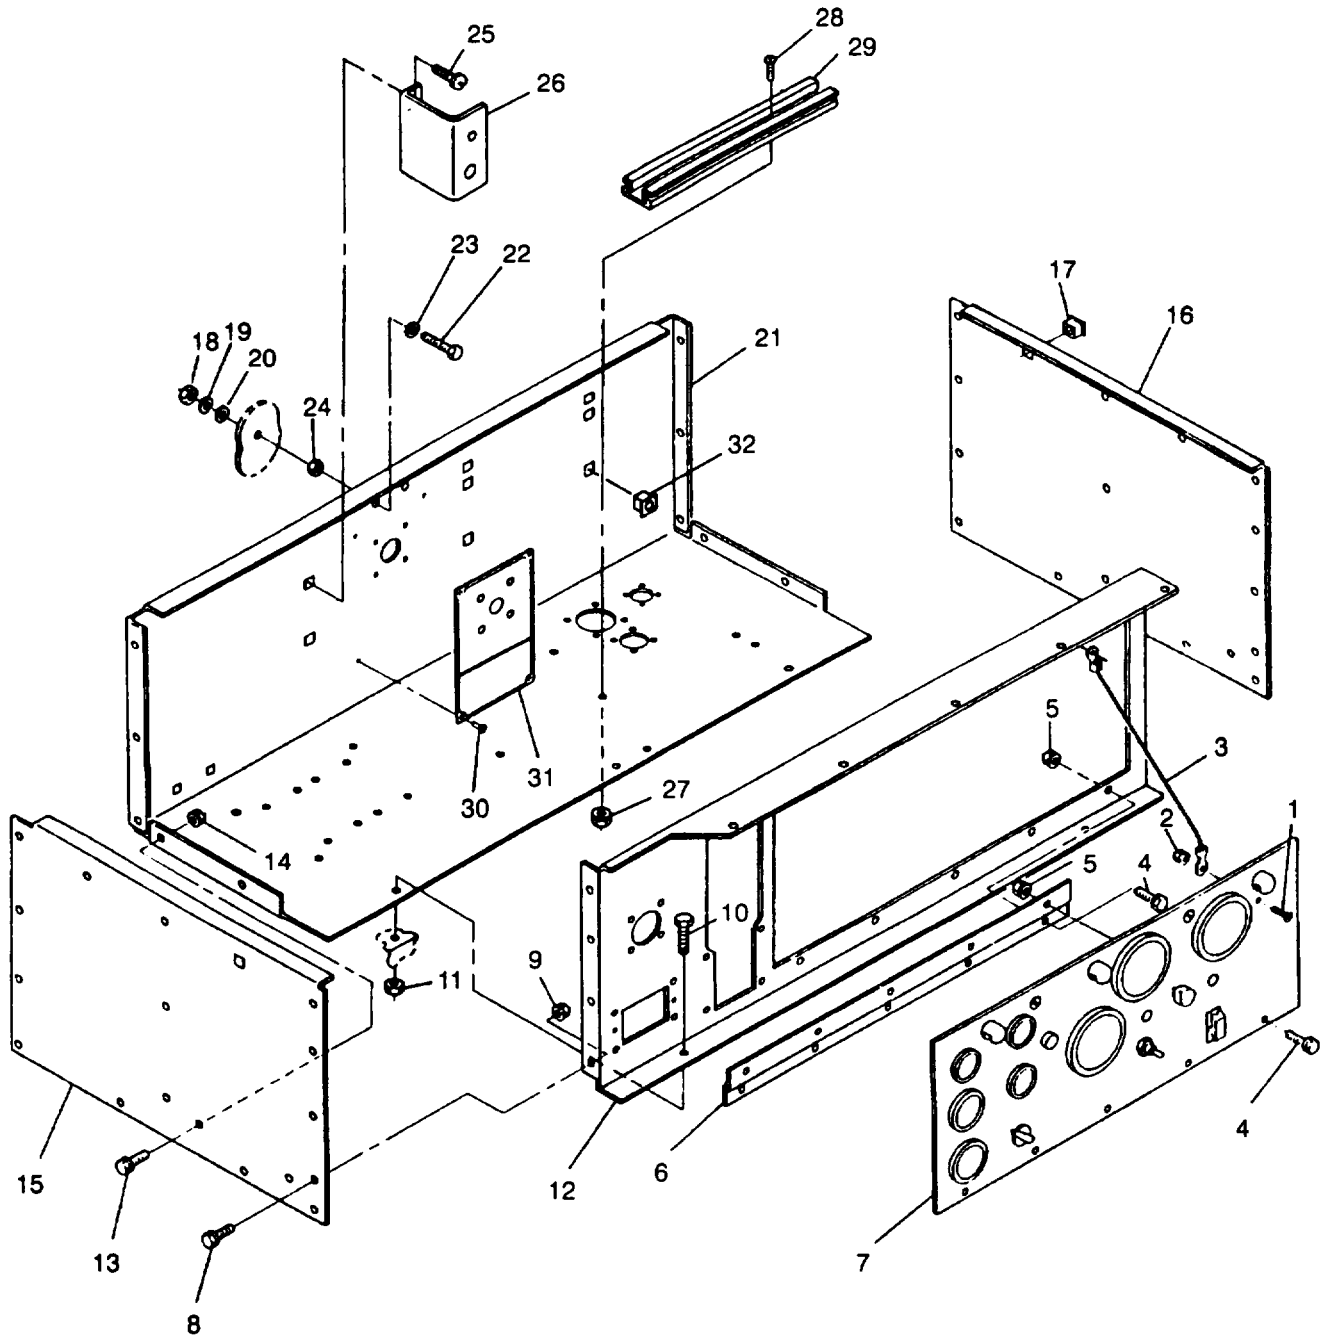

Figure 2-15. Control Box Housing and Control Panel
- e. Remove screw (1, Figure 2-15), nut (2), and strap (3).
- f. Remove bolts (4), nuts (5), hinge (6), and control panel (7) from control box.
- a. Install hinge (6, Figure 2-15) on control panel (7) with bolts (4) and nuts (5).
- b. Install control panel (7), with hinge (6) attached, on control box with bolts (4) and nuts (5).
- c. Install strap (3) with screw (1) and nut (2).
- i. Remove bolts (8 and 10, Figure 2-15), nuts (9) and (11), and control panel frame (12).
Inspect control panel frame (12, Figure 2-15) for dents, cracks, loose paint, and corrosion.
- a. Install control panel frame (12, Figure 2-15) on control box assembly with bolts (8) and (10), and nuts (9) and (11).
- a. Inspect control box side panels (15 and 16, Figure 2-15) for dents, cracks, loose paint, and corrosion.
- b. Inspect for missing and damaged cage nuts (17).
- a. Install control box side panels (15 and 16, Figure 2-15) with bolts (8) and (13), and nuts (9) and (14).
- i. Remove nuts (18, Figure 2-15), lockwashers (19), washers (20), and control box tray (21) from generator set.
- a. Inspect control box tray (21, Figure 2-15) for dents, cracks, loose paint, and corrosion.
- b. Inspect for damaged and missing cage nuts (32).
- c. Repaint surface in accordance with TM 43-0139. (F) Refer to applicable directives.
- d. Replace all missing or damaged cage nuts (32, Figure 2-15).
- a. Install voltage reconnection switch plate (31, Figure 2-15) with new pop rivets (30).
- b. Install bolts (22), washers (23), and nuts (24) in control box tray (21).
- c. Install tracks (29) and secure with screws (28) and nuts (27).
- d. Install controls bracket (26) with screws (25).
- e. Position control box tray (21) in generator set and install washers (20), lockwashers (19), and nuts (18).